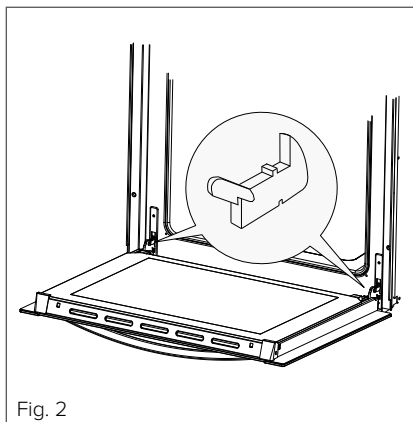

Fig. 2
- Lift and tilt the safety catch part of the hinge (fig. 2) so that it is fully extended and points towards the door.